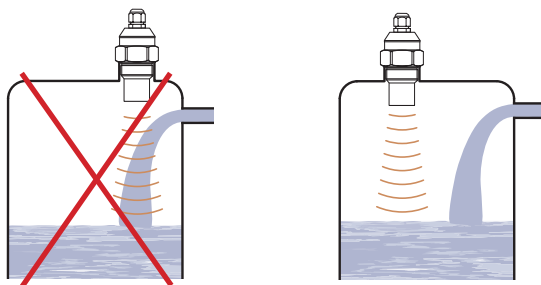

Fig. 7: Level meter installation outside the influence of filling circulation
- i) Do not install the level meter in or above the **filling point** (Fig. 7).